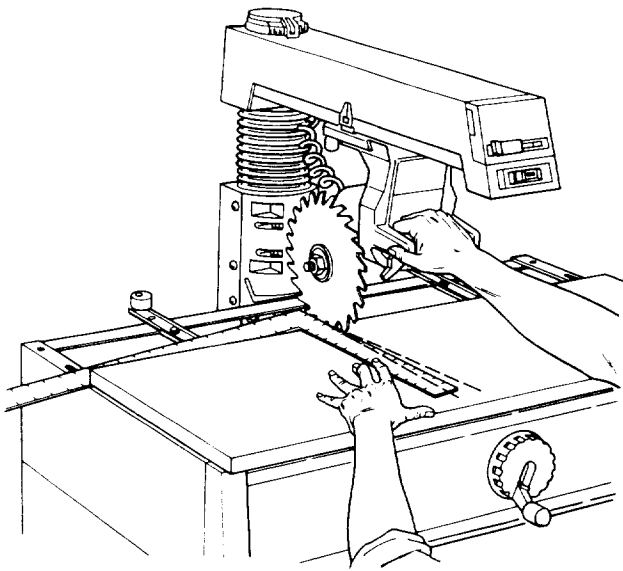

Fig. 62
7. Lay a framing square on the *front table* with the long edge along the back of the *table* and the short edge alongside the *blade*. (Figure 62)
8. Move the framing square toward the *blade* until a tooth of the *blade* just touches the edge of the square. (Figure 62)
**If** the marked tooth moves away from the square or tries to “walk” on top of it, go to step 12 (Figure 62)